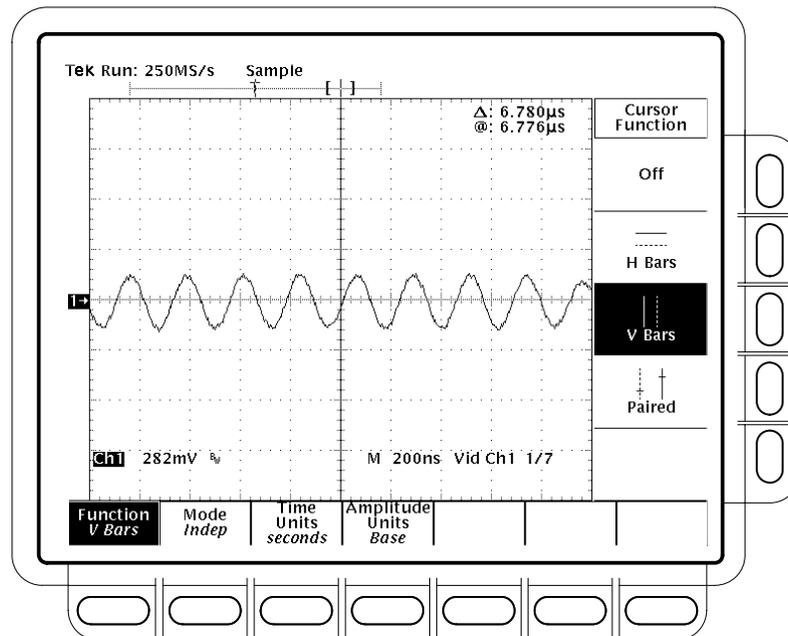

Figure 4-37: Line Count Accuracy Correct Result Waveform
- Verify that the cursor is positioned on a positive slope of the burst signal. See Figure 4-37.